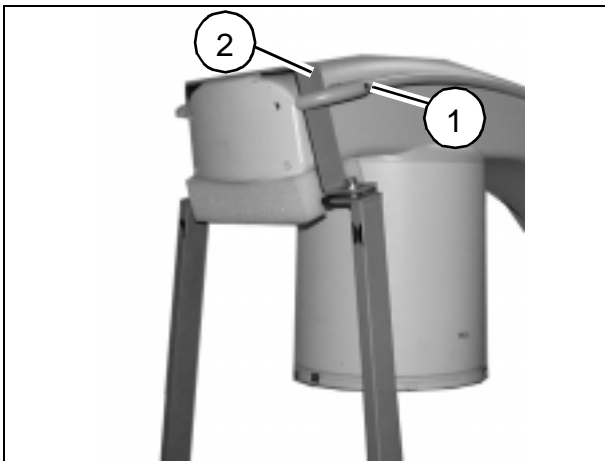

Fig. 3
- Loosen attachment screws for reeling (1/Fig. 3).
- Unscrew transport bracket (2/Fig. 3) and remove.
- Tighten down attachment screws for reeling (1/Fig. 3) again on both sides.